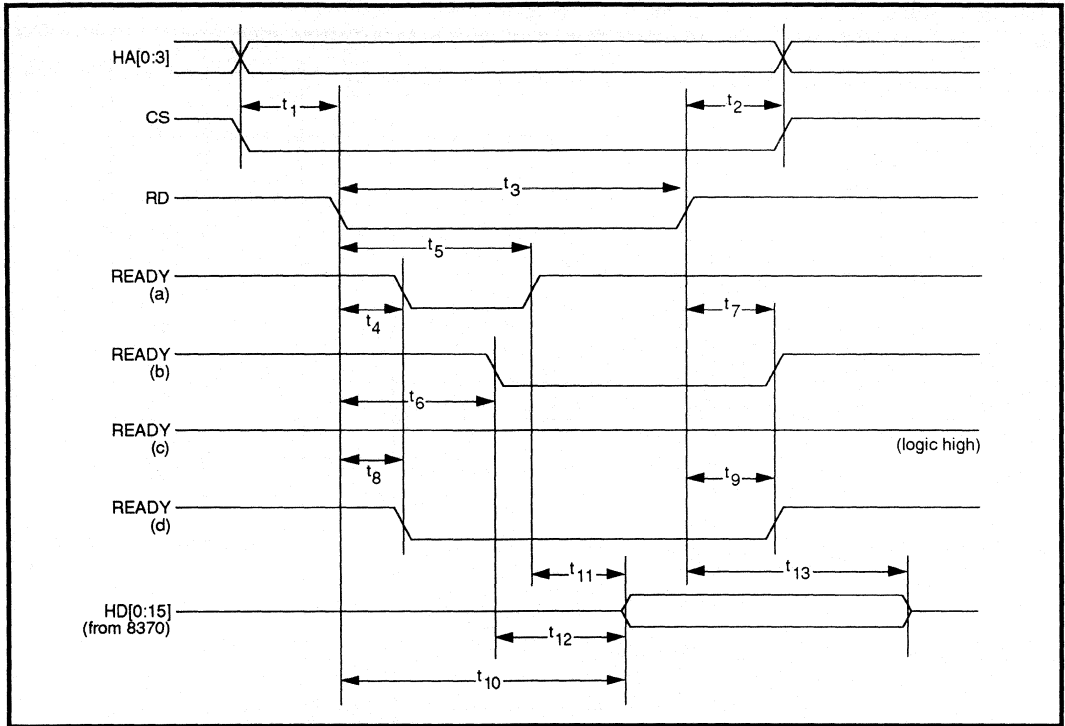
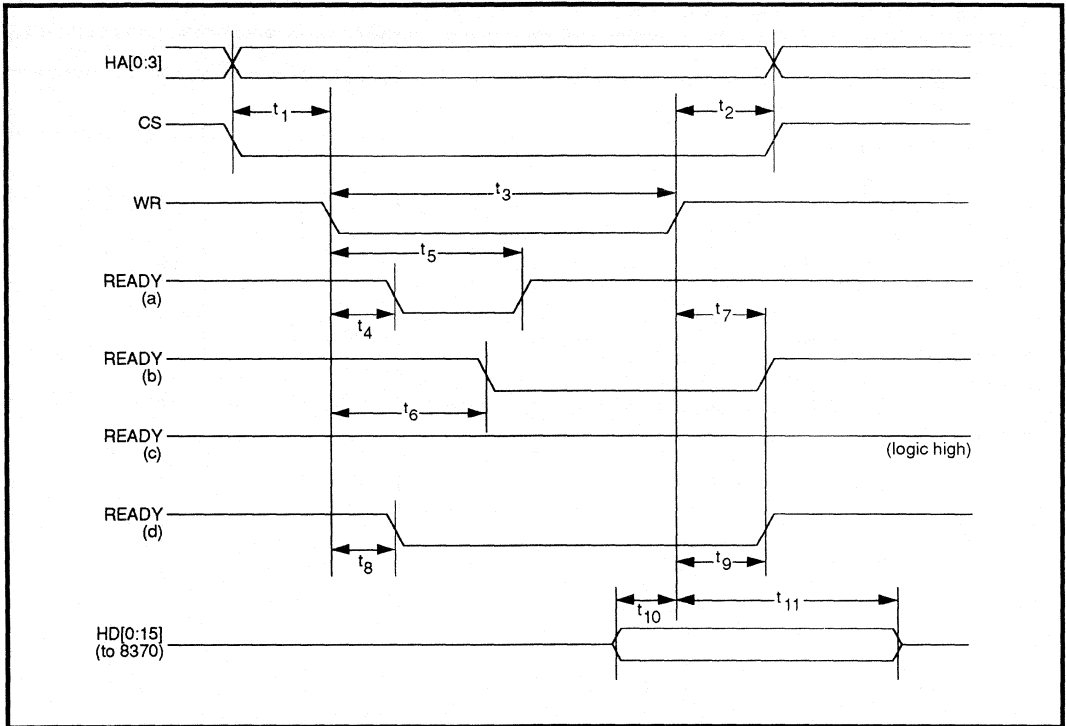

FIGURE 6: Read Cycle, Generic Bus Mode (Refer to Table 9)
FIGURE 7: Write Cycle, Generic Bus Mode (Refer to Table 10)
TABLE 5: Read Cycle, Generic Bus Mode (Refer to Figure 6)
TABLE 6: Write Cycle, Generic Bus Mode (Refer to Figure 7)
- Note: (1) An asserted EOP terminates any further DMREQ after DMACK returns high.
(2) The DMA cycle uses DMACK as the chip select. DMACK overrides CS and HA[0:3] if they are both asserted at the same time, forcing selection of the Buffer Memory Port as in a DMA cycle.
(3) For READY timing and HD[0:15] timing, see Figure 6, t_4 - t_{13} , and Figure 7, t_4 - t_{11} .
- Note: (1) DMREQ goes low during the next-to-last transfer of the burst. DMACK should not go high until after the \overline{RD} or \overline{WR} pulse of the last transfer cycle goes high
- (2) The DMA cycle uses \overline{DMACK} as the chip select. \overline{DMACK} overrides \overline{CS} and HA[0:3] if they are both asserted at the same time, forcing selection of the Buffer Memory Port as in a DMA cycle.
- (3) For READY timing and HD[0:15] timing, see Figure 6, t_4 - t_{13} , and Figure 7, t_4 - t_{11} .